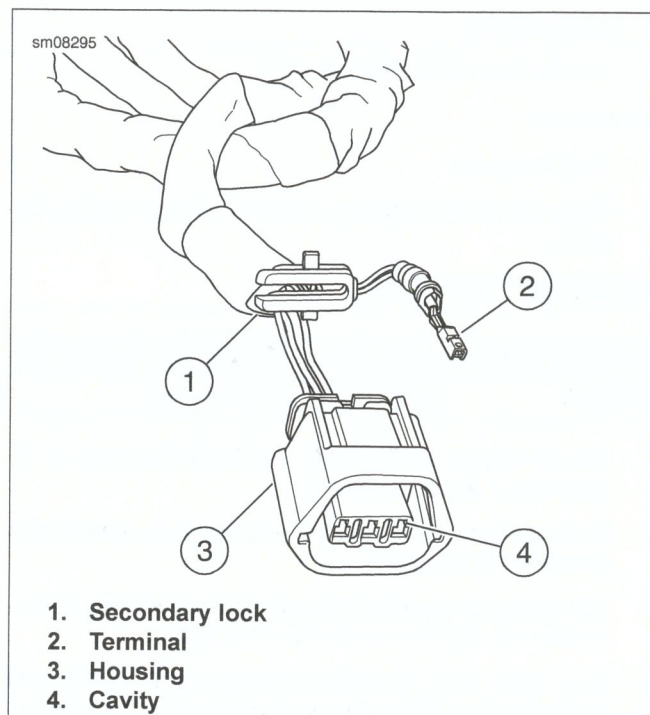

Figure A-36. Yazaki SSD Sealed Connector
2. See Figure A-36. Pry secondary lock (1) from housing (3).
3. Insert the extractor into the cavity (4) next to the terminal (2). Press the plastic tang away from the terminal.
3. See Figure A-36. Install secondary lock into connector (1).